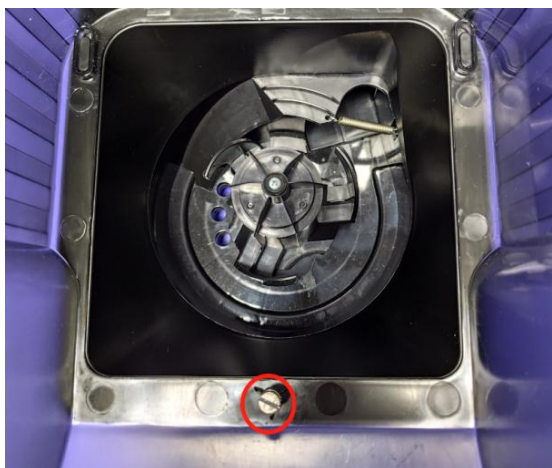

Figure 2-3
2.1.3. Press down the fixing screw of the ball storage box and turn it clockwise to tighten it. (Figure 2-3)